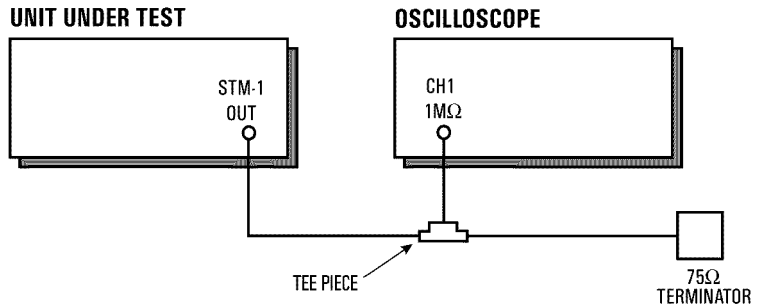

Figure 3-4 STS-3 Transmitter Output Waveshape Test Setup
- 1 Connect up the equipment as shown in Figure 3-4 and recall the OmniBER's default settings as shown on page 3-4.